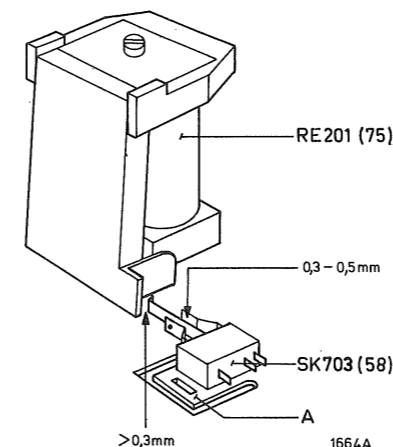

Fig. 14
- When the solenoid is energised, the force at the top of the pinch roller spindle (110) should be 1000 grammes \pm 100 grammes. This force should be applied at the moment that there is a visual play between the pinch roller and the capstan. This tensile force can be adjusted by turning the upper nuts 35.
- When the solenoid is de-energised the contacts of switch 58 should be closed. To be adjusted by bending tag A (see Fig. 14).
- When the solenoid is energised the clearance between the open contacts of switch 58 should be 0.3 - 0.5 mm. To be adjusted by bending the contacts (see Fig. 14).